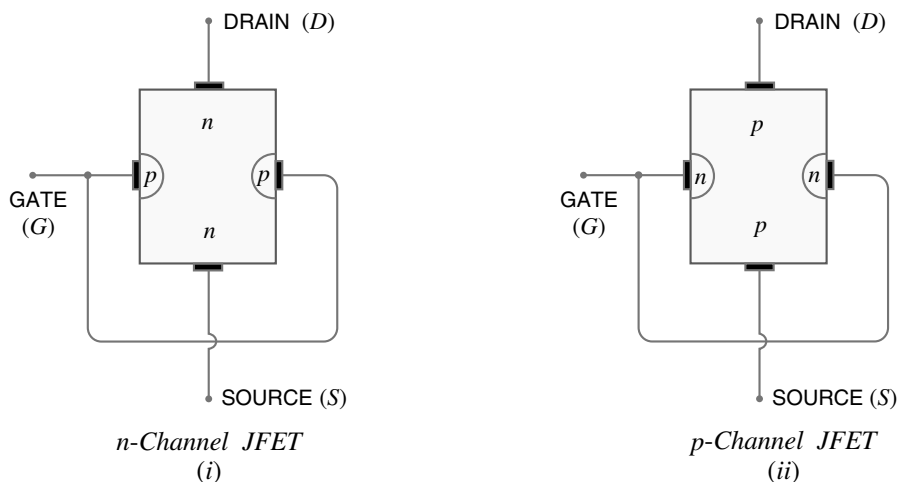

Fig. 17.2
**Constructional details.** A *JFET* consists of a *p*-type or *n*-type silicon bar containing two *pn* junctions at the sides as shown in Fig. 17.2. The bar forms the conducting channel for the charge carriers. If the bar is of *n*-type, it is called an *n-channel JFET* as shown in Fig. 17.2 (i) and if the bar is of *p*-type, it is called a *p-channel JFET* as shown in Fig. 17.2 (ii). The two *pn* junctions forming diodes are connected \*internally and a common terminal called *gate* is taken out. Other terminals are *source* and *drain* taken out from the bar as shown. Thus a *JFET* has essentially three terminals viz., *gate* (*G*), *source* (*S*) and *drain* (*D*).
\* It would seem from Fig. 17.2 that there are three doped material regions. However, this is not the case. The gate material *surrounds* the channel in the same manner as a belt surrounding your waist.